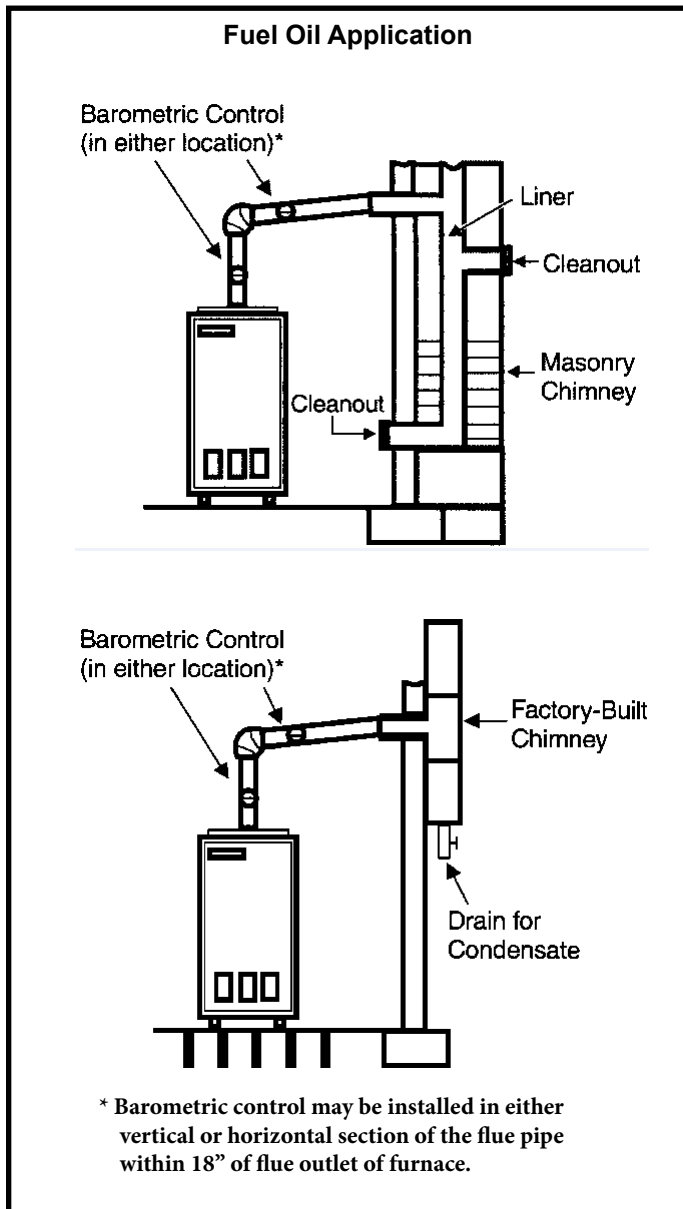

Figure 3
8. The flue pipe should slope upward toward the chimney on a horizontal run at least 1/4 inch to the foot and should be supported by something other than the furnace. See Figure 3 on page 6.
14. All vent pipe run through unconditioned areas or outside shall be constructed of factory-built chimney sections. See Figure 3 on page 6.
15. Where condensation of flue gases is apparent, the vent shall be constructed to prevent the condensation from entering the flue transition box opening. Provisions shall be made to drain off the condensate. See Figure 3 on page 6.